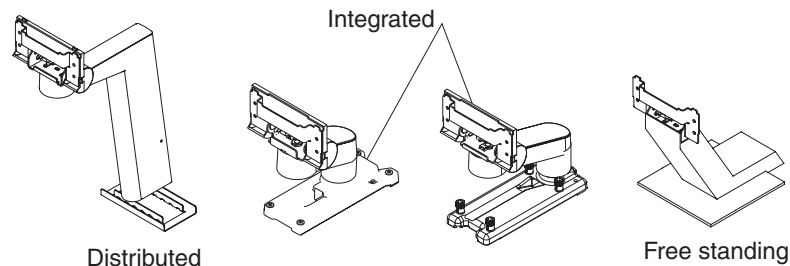

Figure 2-1. Pedestal types
1. Select the pedestal type and route the cables. Refer to Figure 2-1 on page 2-2.